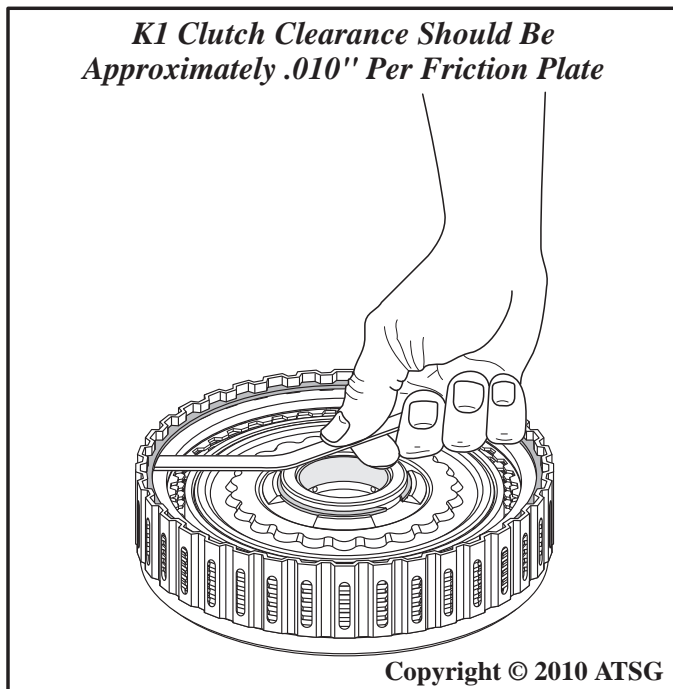

Figure 129
14. Measure the K1 clutch clearance with a feeler gauge between the backing plate and snap ring, as shown in Figure 129.
15. K1 clutch clearance should be approximately .010" per friction plate installed, as shown in Figure 129.